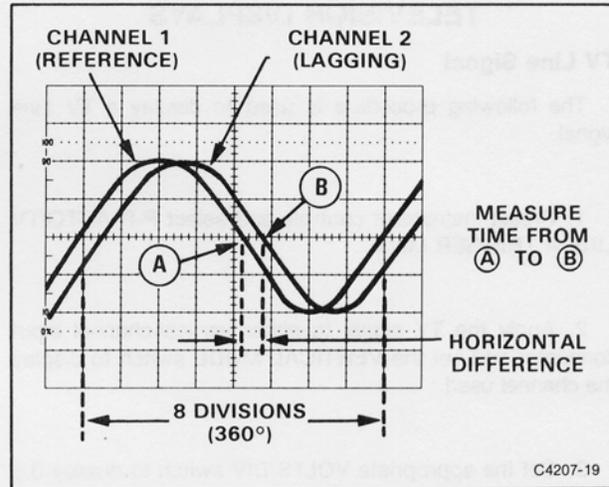
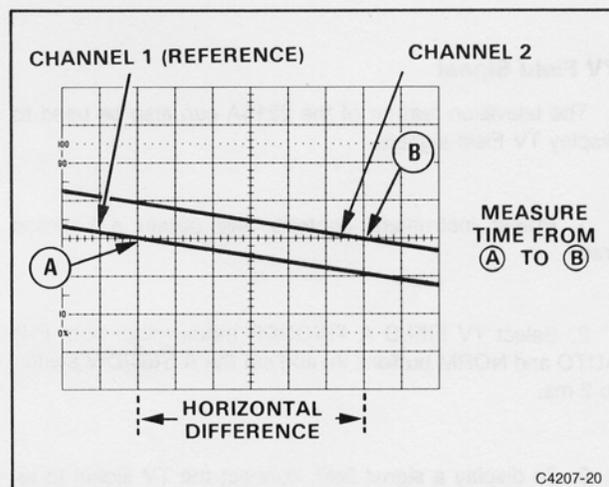

Figure 4-8. Phase difference.
Figure 4-9. High-resolution phase difference.
9. Position the displays and adjust the SEC/DIV Variable control so that one reference-signal cycle occupies exactly 8 horizontal graticule divisions at the 50% rise-time points (see Figure 4-8). Each division of the graticule now represents 45° of the cycle (360° ÷ 8 divisions), and the horizontal graticule calibration can be stated as 45° per division.
Example: The horizontal difference is 0.6 division with a graticule calibration of 45° per division as shown in Figure 4-8.
EXAMPLE: If the sweep speed were increased 10 times with the magnifier (X10 Magnifier button out), the magnified horizontal graticule calibration would be 45°/division divided by 10 (or 4.5°/division). Figure 4-9 shows the same signals illustrated in Figure 4-8, but magnifying the displays results in a horizontal difference of 6 divisions between the two signals.